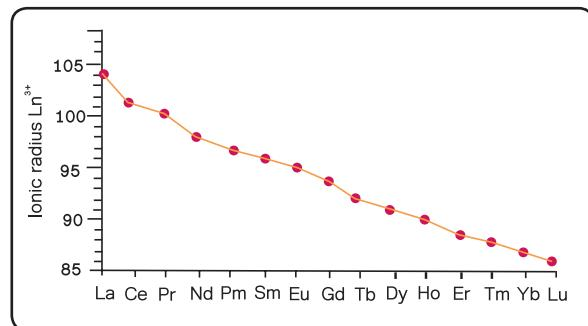

Fig. 8.6 : Ionic radii of lanthanoids in +3 oxidation state
8.12.4 Atomic and ionic radii (Lanthanoid Contraction) : As we move along the lanthanoid series, there is a decrease in atomic and ionic radii (Fig.8.6). This steady decrease in the atomic and ionic radii is called Lanthanoide contraction. As we move from one element to another the nuclear charge increases by one unit and one electron is added. The new electrons are added to the same inner